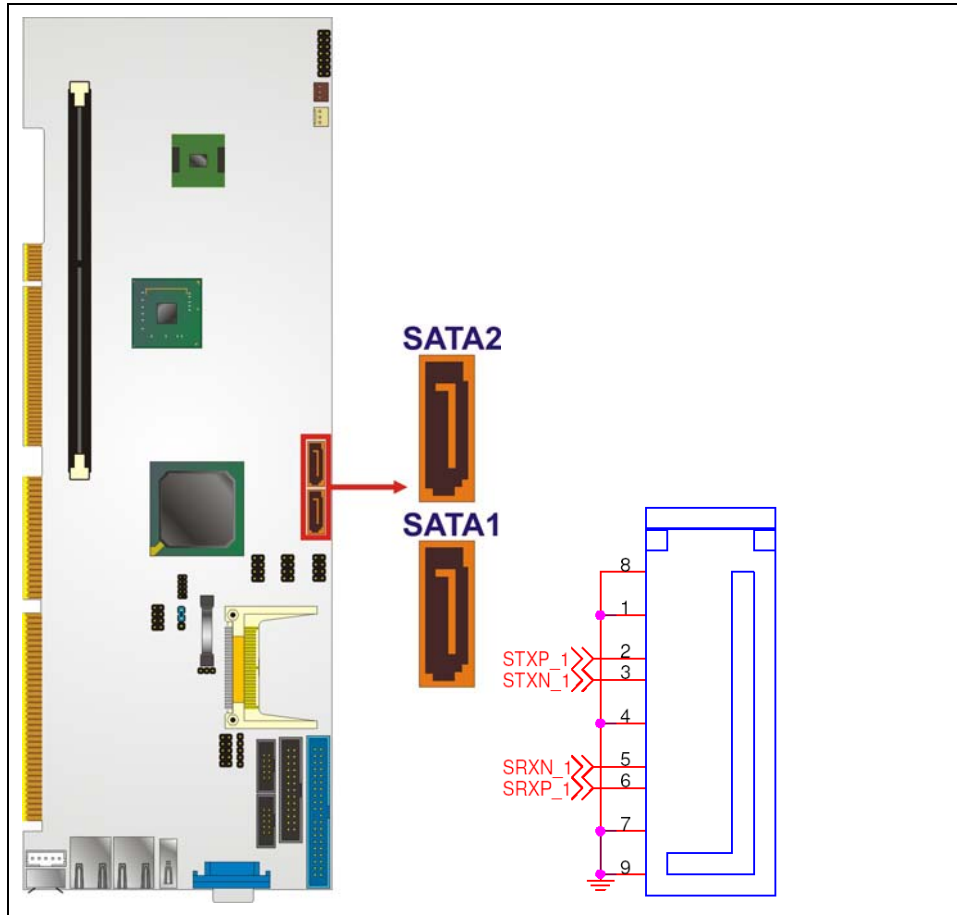

Figure 4-12: SATA Drive Connector Locations
- CN Location:** See Figure 4-12